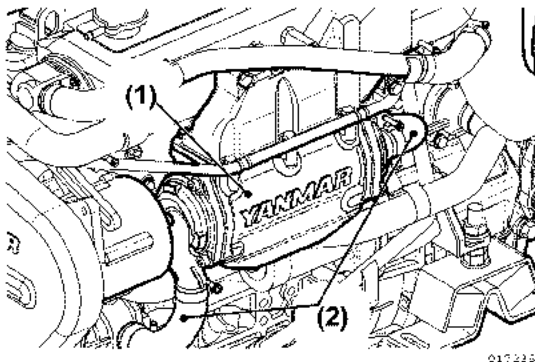

Figure 5-21
19. Remove the intercooler (only for 4JH4-HTE) (Figure 5-21):